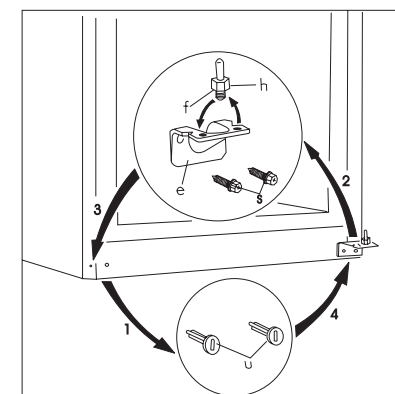

fig. 3.
- Remove the plugs (u) at the bottom of the appliance. (fig.3)
- Remove the lower hinge (e) by removing its screws (s) and mount it on the other side. (fig.3)
- Unmount the lower hinge pin (f) and its washer (h) and mount them into the other hole of the lower hinge. (fig.3)
- Fit the freezer door to the lower door hinge pin (f). (fig.3)